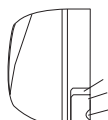

Fig.2
1. When routing the piping and wiring from the left or right side of indoor unit, cut off the tailings from the chassis as necessary (show in Fig.2)